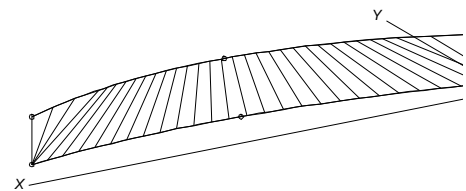

Fig. 11
- 3 Change dy to 7** (Fig. 11).